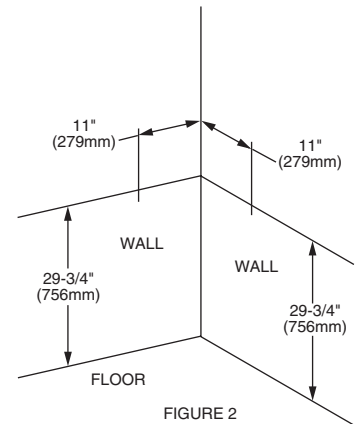

FIGURE 2
6. Hangers provided with the lavatory should be mounted 11" from the corner and 29-3/4" up from the floor on each wall (see **FIGURE 2**). Tighten the hangers, center slot only, until they will support the lavatory, leaving "play" for final adjustment later. Make sure hanger is in highest position when snugging hanger. Set the lavatory in place.